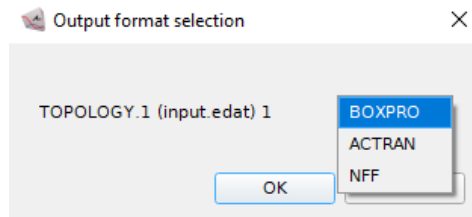

Figure 10.39: Topology output format selection - BOXPRO, ACTRAN, NFF
- If the topology is in BOXPRO format, it can be exported using BOXPRO format (choose BOXPRO option in the format selection popup, as shown in Figure 10.39), to NFF type (choose NFF option) or using EDAT explicit format (choose ACTRAN option).